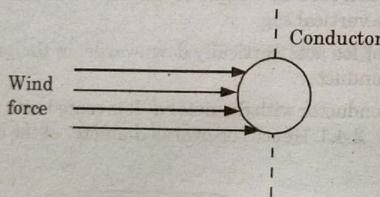

Fig. 3.4.2. Direction of wind force.
2. Thus force due to wind act at right angles to the projected surface of the conductor as shown in Fig. 3.4.2.